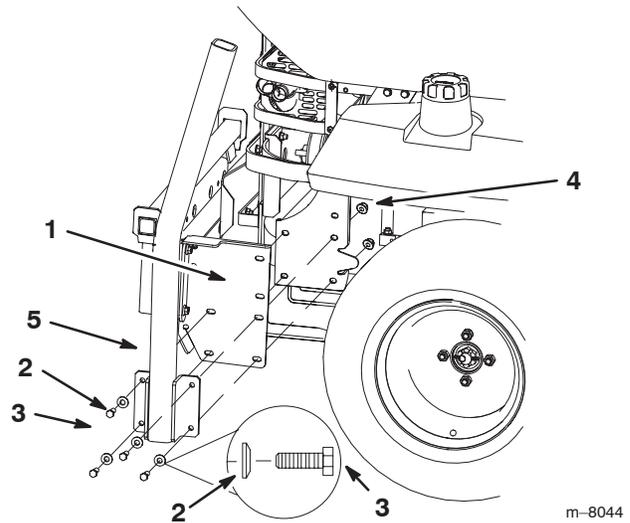

Figure 2
1. Remove the bolts, nuts and washers holding the rollbar to one side of the machine. Discard the bolts, nuts and washers (Fig. 2).
2. Install the bagger side plate and the roll bar section to the side of the machine using 4 bolts (3/8 x 1-1/2 inch), 4 curved washer (3/8 inch) and 4 flange nuts (3/8 inch) (Fig. 2).
Note: Make sure the curved washers are installed as shown in Figure 2.
4. Tighten the side brackets to the side of the mower (Fig. 2 or 5).